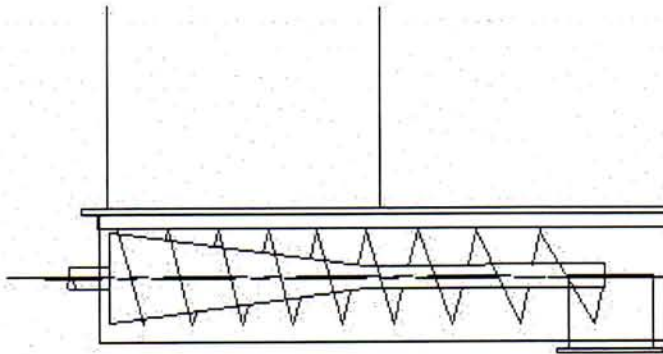

Figure 1. Tapered Shaft, Mass-Flow, Screw Feeder
Fig. 1 shows a tapered shaft mass flow screw feeder. This conical shaft is either wound in between the  $\frac{1}{2}$  pitch flights or formed and the flights fitted around the shaft. This approach will provide increased flight capacity; however, the length of outlet over which you can use this is limited to three (3) times the screw diameter. In other words, a 12" screw with a conical shaft can be used with a 36" long outlet. The reason for this limit is simply fabrication tolerances. The screw feeder fabricator can only maintain the flight tolerances over this particular diameter and length of screw.